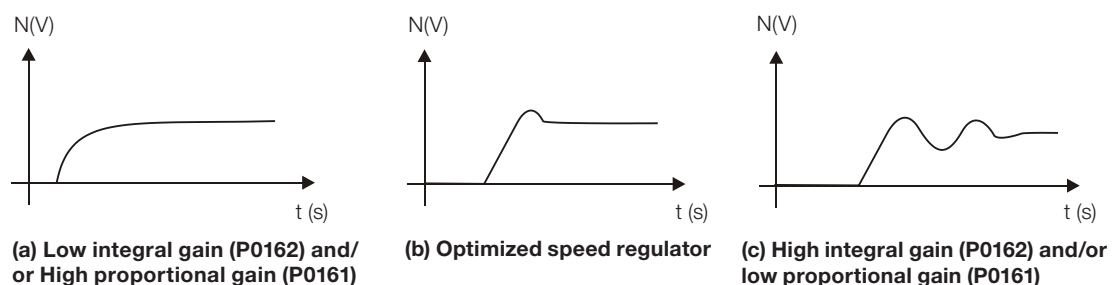

Figure 11.4 (a) to (c): Speed regulators response types
6. Verify among the options of the figure 11.4, which waveform best represents the observed signal.
7. Adjust P0161 and P0162 according to the response type presented in the figure 11.4.